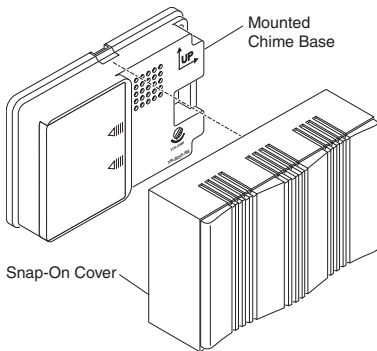

Figure 6
- **Snap-On Cover:** Apply pressure to the cover until it snaps into place (see Figure 6). To remove, firmly grasp cover and pull.